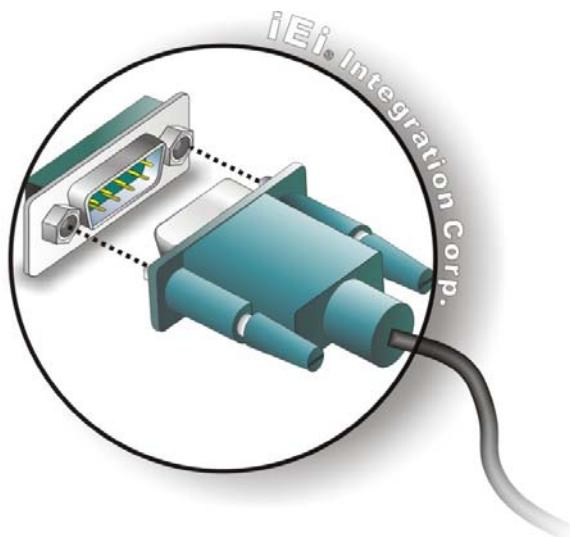

Figure 4-23: Serial Device Connector
Step 2: Insert the serial connector. Insert the DB-9 connector of a serial device into the DB-9 connector on the external peripheral interface. See **Figure 4-23**.